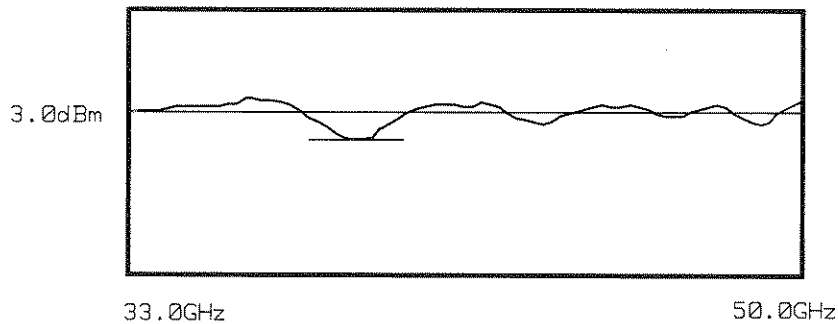

Figure 2-5. Minimum Power Point (33.0 to 50.0 GHz)
6. Find the minimum power point between 33.0 GHz and 50.0 GHz by slowly adjusting the TUNE knob from 33.0 GHz to 50.0 GHz and noting at which frequency minimum power occurs. See Figure 2-5.